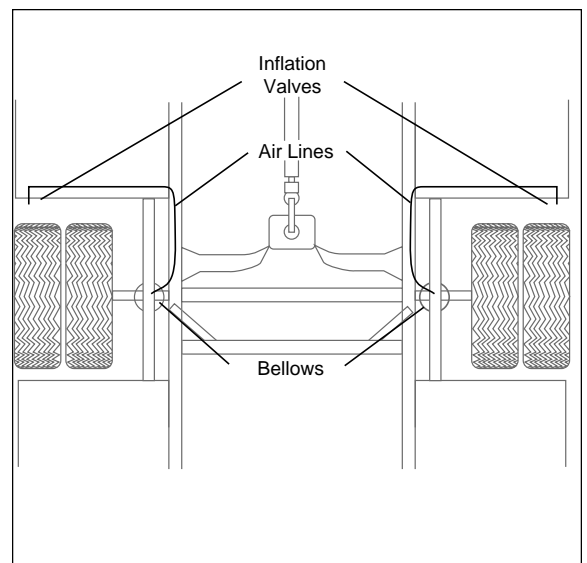

Figure 6
1. Select locations on the vehicle for the air inflation valve (Figure 6). The location chosen should provide protection so the valve will not be damaged but be accessible for the air inflation chuck. Recommended location is in the wheel well or lower body ahead of rear wheel. One on each side provides ease of filling, checking and measuring body height to compensate for side to side lean and front to rear sag. Install inflation pressure decal near the inflation valve.
3. Slide a thermal sleeve (O) onto air line (AA) from the cut end on the tail pipe side.
6. Route the air line from the bellows to the pre-determined inflation valve location. Insure that it is protected from the direct heat of the exhaust system and kept away from sharp edges. Caution should be taken not to kink or bend the air line. Secure along frame with the nylon ties supplied with this kit (Figure 6).